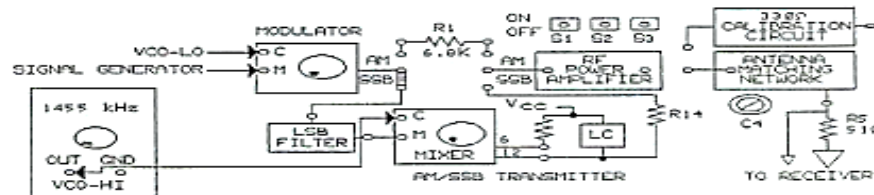

Figure 4-25.
8. Connect the output of the VCO-HI circuit block to input C of the MIXER (Figure 4-25).